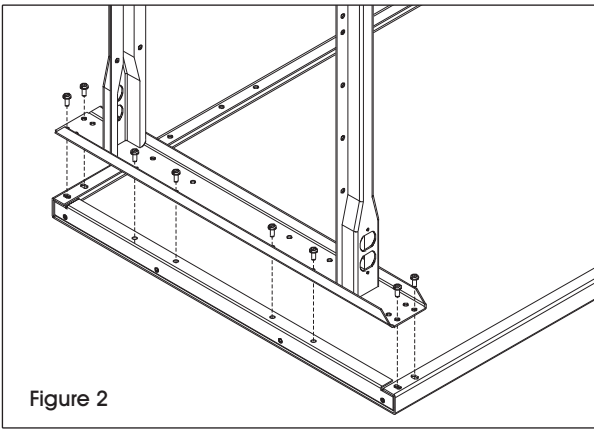

Figure 2
1. Align leg holes to end of tabletop. Secure with eight 1/4"-20 x 5/8" bolts. Threaded inserts are provided on each tabletop end. (See Figure 2)